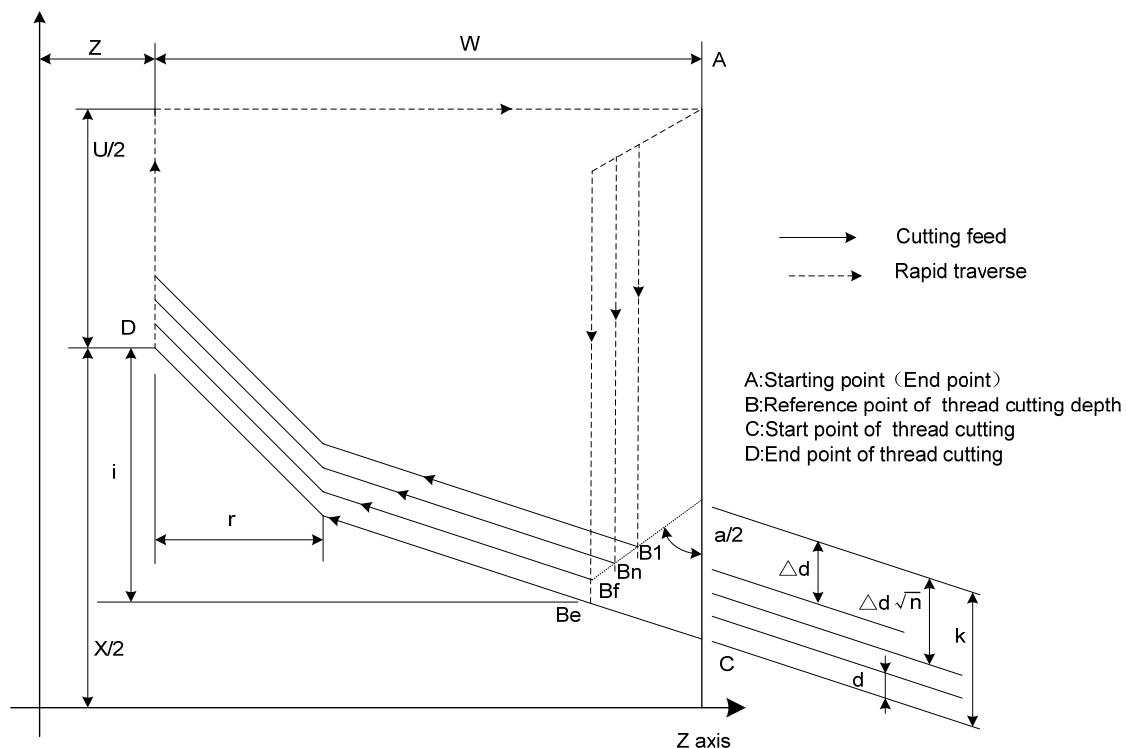

Fig. 2-63
**Command function:** Machining thread with specified depth of thread (total cutting depth) is completed by multiple roughing and finishing, if the defined angle of thread is not  $0^\circ$ , thread run-in path of roughing is from its top to bottom, and angle of neighboring thread teeth is the defined angle of thread. G76 can be used for machining the straight and taper thread with thread run-out path, which is contributed to thread cutting with single tool edge to reduce the wear of tool and to improve the precision of machining thread. But G76 cannot be used for machining the face thread. Machining path is as Fig.2-63.